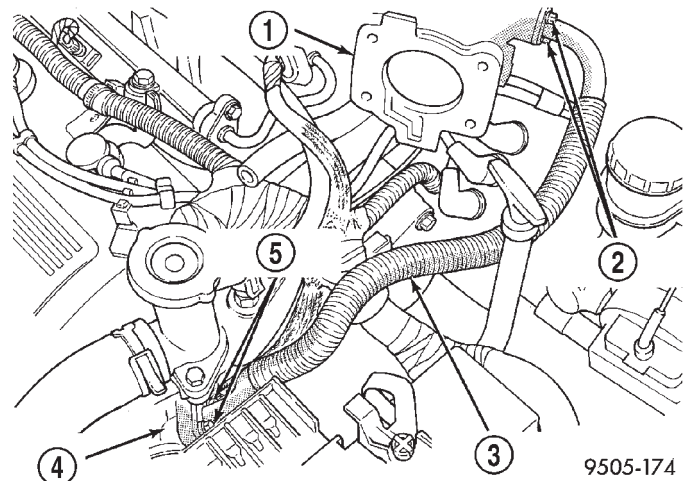

Fig. 66 EGR Tube Attachment To Intake Manifold And EGR Valve
(6) Remove the EGR tube (Fig. 66) from the intake manifold and EGR valve.
(14) Install the EGR tube with **NEW** gaskets on the intake manifold and EGR valve (Fig. 66). Install the 4 mounting bolts and tighten to a torque of 11 N·m (95 in. lbs.).
(15) Install the throttle body and a **NEW** gasket on the intake manifold. Install the 4 throttle body